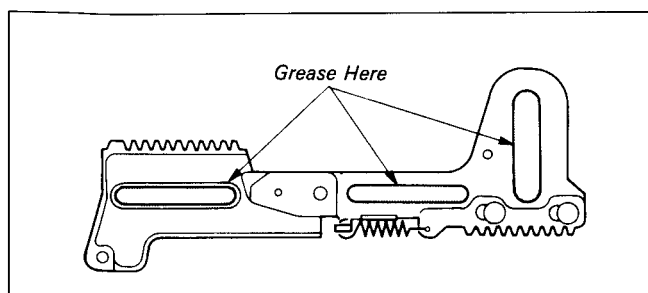
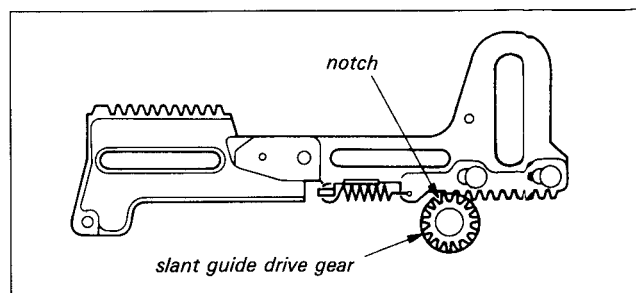

Fig. 7-31.
Fig. 7-32.
Note: At this time, confirm the engagement position of the slant guide drive gear and L slider assembly gear. (See Fig. 7-32.)
- 1) Lubricate the portions indicated in Fig. 7-31.
- 2) Mount the tension regulator load arm assembly ② and the stopper washer ⑥.
- 3) Mount the L slider assembly ⑤ while pushing the RL arm assembly protrusion ④ in the direction of arrow.
- 4) Put the tension regulator load arm assembly ② pin into the M slider groove. (Refer to 7-3-15. M slider)
- 5) Mount the two stopper washers ③.
- 6) Refer to 3-4, 2. Mounting, 2), and place the tension regulator load arm assembly ② pin in the tension regulator arm assembly cam groove.
- 8) Engage the slant guide drive gear so that the notch is 1 tooth away from the L slider assembly left side tooth. (See Fig. 7-32.)
- 9) Mount the entrance guide (P) assembly according to 7-3-10., 2. Mounting.